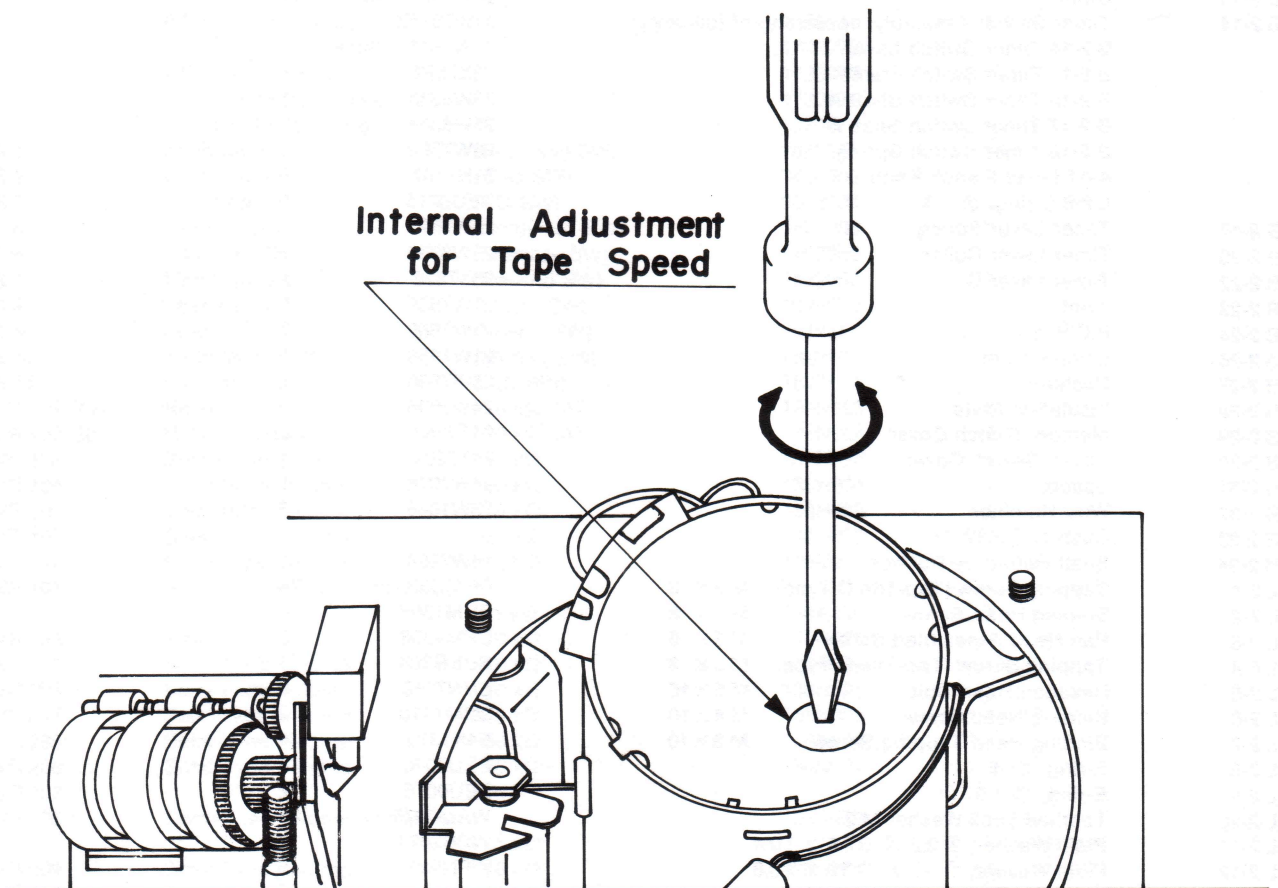

Fig. 2 Tape Speed Adjustment Location
3. To achieve the maximum reading on the AC VTVM adjust the azimuth alignment screw (Fig. 2).